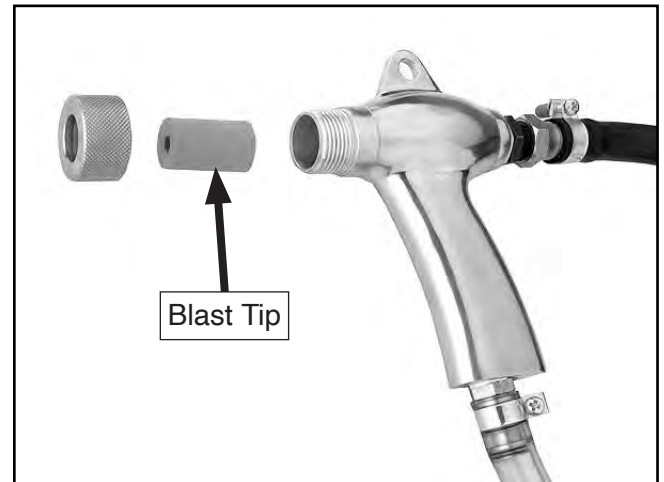

Figure 22. Blast tip installation.
5. Install the correct tip into the blast gun, in the order shown (**Figure 22**). For lower air use the 6mm tip is used most often. Refer to **Page 26** for air pressure and media options.